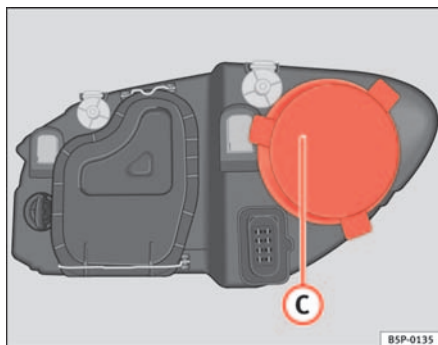

Fig. 177 Main beam headlights
- Remove the cover ⇒ fig. 177 ③ by pulling on this.